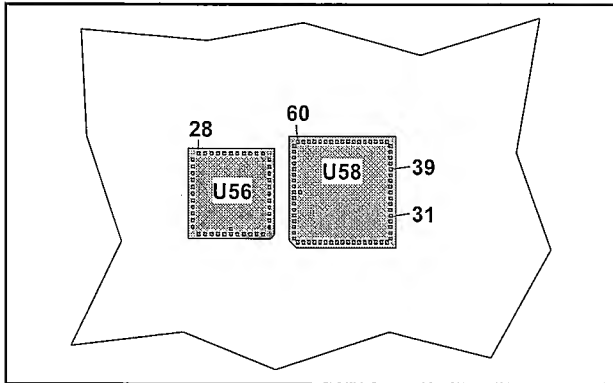

Figure 5-19 Pinning diagram for U56 and U58.
- Check all signals on U56 and U58. Use P5 to trigger the oscilloscope, see Figure 5-19.